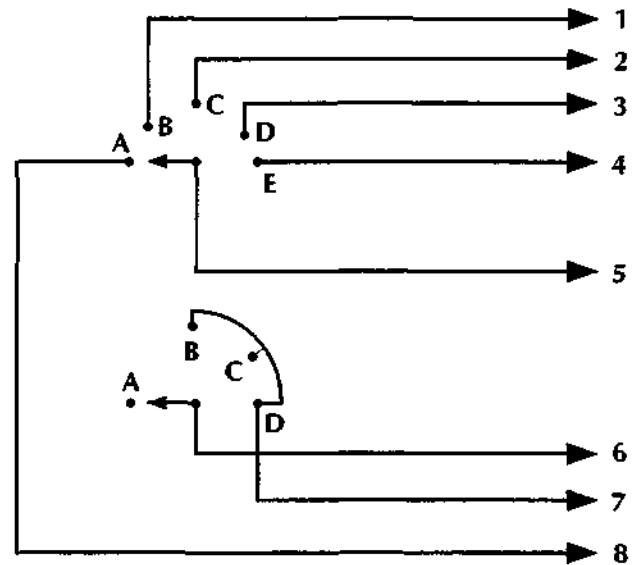

Figure 4.
The air conditioning function switch (Fig. 4) has five positions: Economy (ECO), Air conditioning (AC), Manual (MAN), Re-circulation and Demist (DEM). These settings have the following functions:
Key to Fig. 4